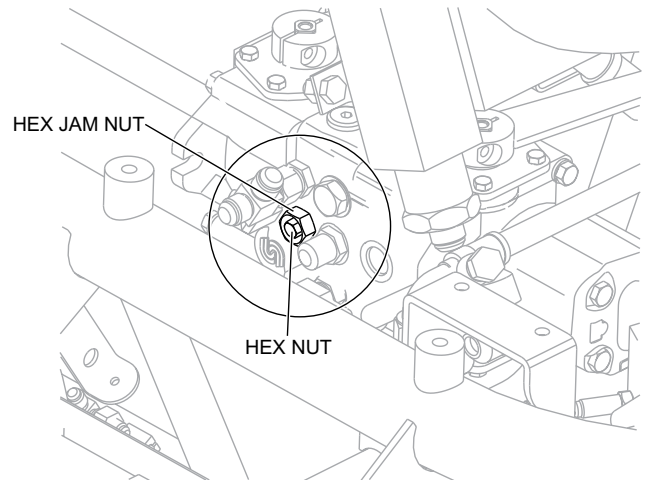

Figure 49. Steering Pressure Adjustmen
2. Install 300 or 600 PSI gauge (Figure 49).